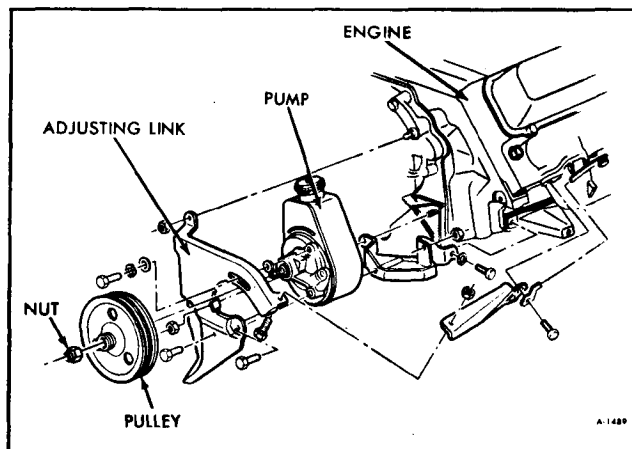

Figure 7—Pump Installation
REMOVAL OF PUMP (FIGURE 7)
3. Remove power steering pump mounting bolts and nuts, and upper left venturi bracket. (See figure 7).